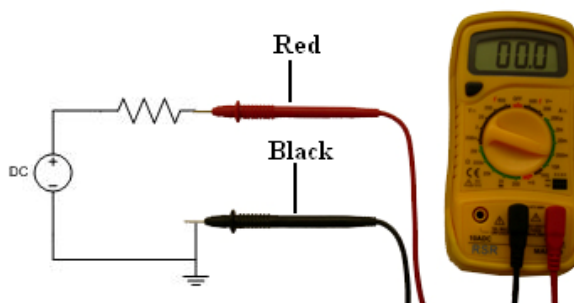

Figure 2.4: Measuring Current
2. To measure current, the circuit must be broken to allow the ammeter to be connected in series in the circuit. The ammeter becomes part of the circuit's connection. See Figure 2.4